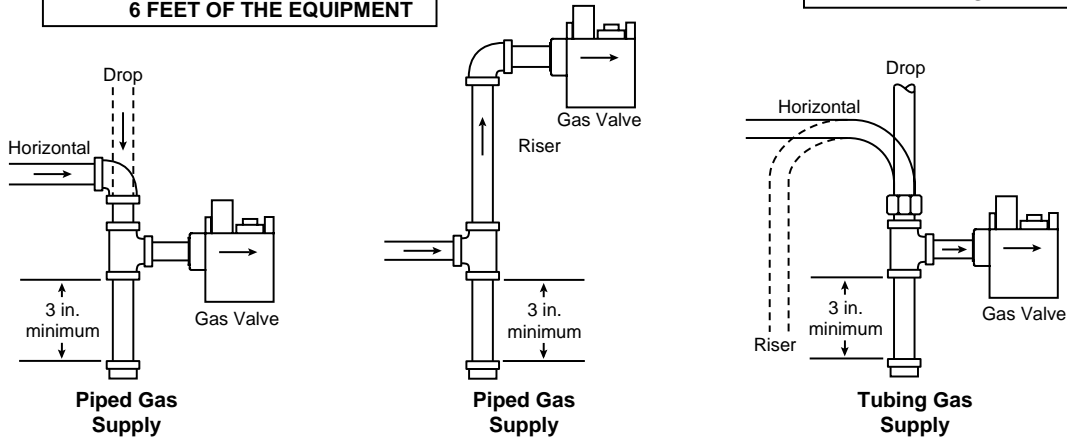

Fig. 2 – Typical gas valve piping
5. Apply pipe joint compound (pipe dope) **that is approved for all gases, only to the male threads of the pipe joints. DO NOT** apply compound to the first two threads (see figure 2 for typical piping connections).